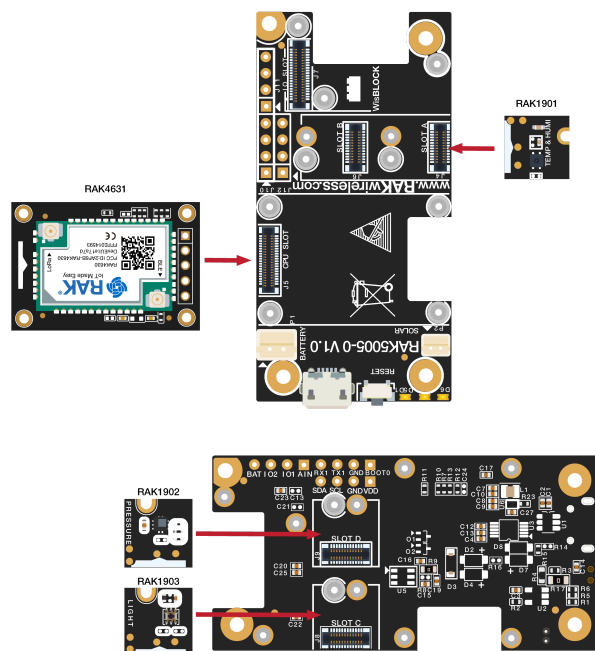

Figure 3: RAK4631 Connection to WisBlock Base and other WisBlock Modules
**Figure 3** shows an illustration on how you can combine various WisBlock Modules with the RAK4631 WisBlock Core via the WisBlock Base board.